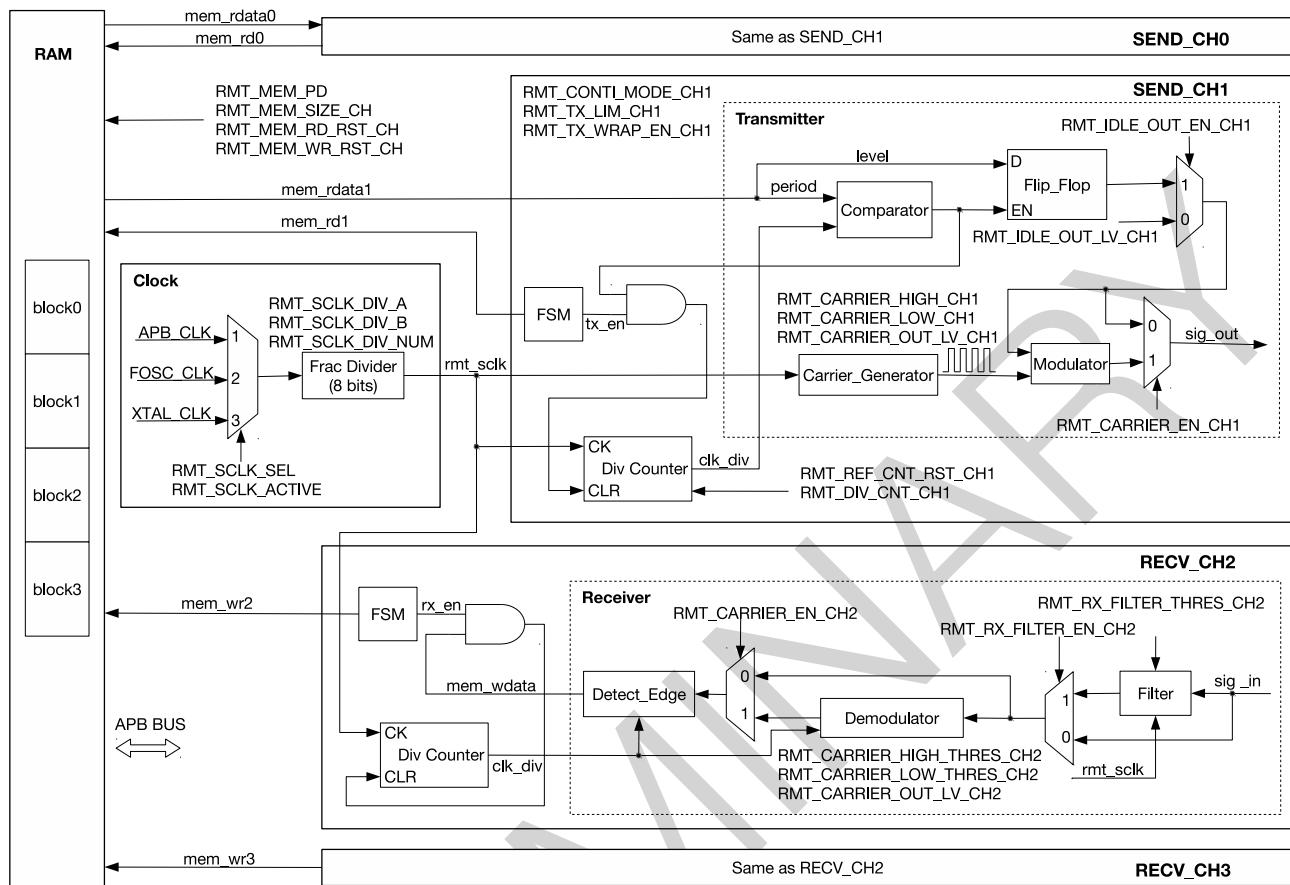

Figure 27-1. RMT Architecture
- Period: points out how many clk_div clock cycles the level lasts for, see Figure 27-1.
The clock source of RMT can be APB_CLK, FOSC_CLK or XTAL_CLK, depending on the configuration of RMT_SCLK_SEL. RMT clock can be enabled by setting RMT_SCLK_ACTIVE. RMT working clock (`rmt_sclk`) is obtained by dividing the selected clock source with a fractional divider, see Figure 27-1. The divider is:
`RMT_DIV_CNT_CHn/m` is used to configure the divider coefficient of internal clock divider for RMT channels. The coefficient is normally equal to the value of `RMT_DIV_CNT_CHn/m`, except value 0 that represents coefficient 256. The clock divider can be reset by clearing `RMT_REF_CNT_RST_CHn/m`. The clock generated from the divider can be used by the counter (see Figure 27-1).